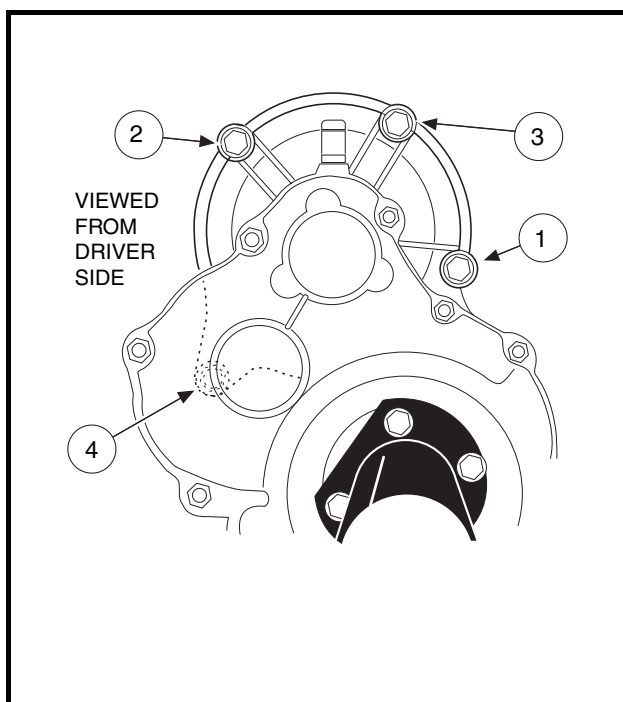

Figure 27-24 Motor Mount
- 4.3. Begin finger-tightening the bolts in the sequence indicated (**Figure 27-24, Page 27-15**). Continue tightening by hand until the motor is seated in the transaxle housing. **See following CAUTION and NOTE.**
- 4.6. Tighten the center bolt (3) to 65 in-lb (7.3 N·m) (**Figure 27-24, Page 27-15**).
- 4.7. Tighten the bolt (4) inserted through the tab to 155 in-lb (17.5 N·m) (**Figure 27-24, Page 27-15**).